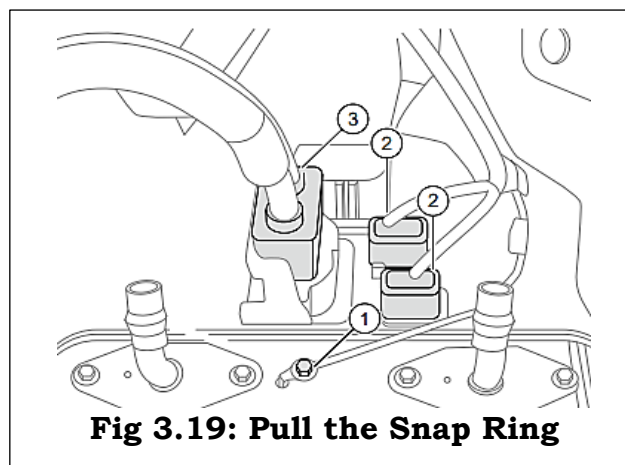

Fig 3.19: Pull the Snap Ring
8. Pull the snap ring 1 of the power battery water inlet pipe outward. as shown in Fig. 3.19.